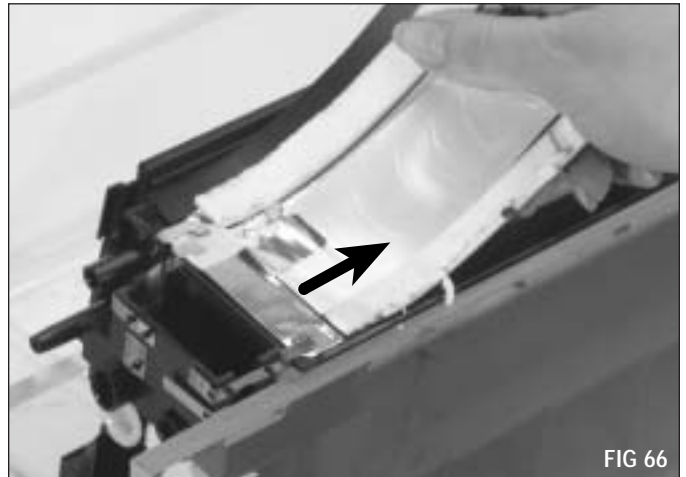

FIG 66
4. Continue to peel the gasket toward the contacts. End with a sideways pull to prevent damage to the contacts (FIG 66). Use 91-99% isopropyl alcohol to remove any remaining adhesive residue or seal materials on the hopper and the mag roller housing.